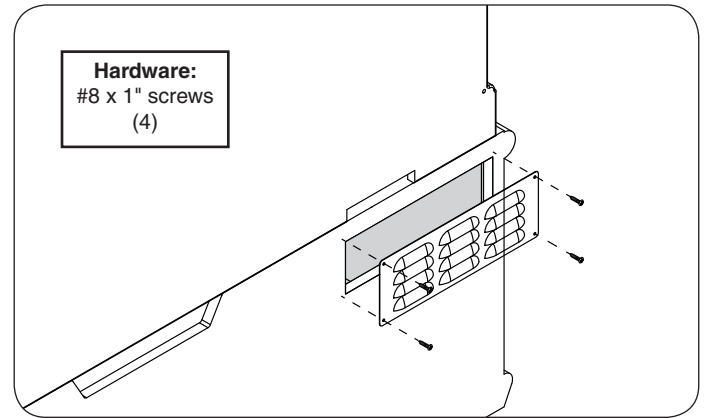

Fig. 27-1 Install louver
2. Use a Phillips screwdriver and the supplied 1" concrete screws (4) to fasten the wall to the unit as shown in Fig. 27-1.